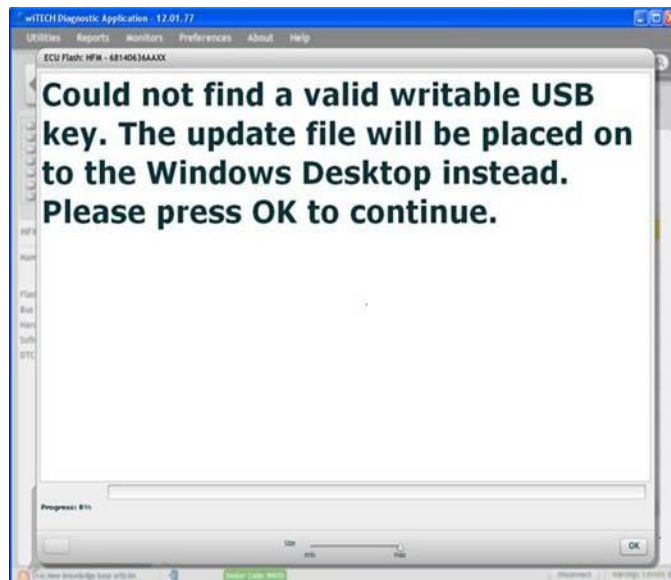

Fig. 8 USB Memory Stick Not Found
8. The USB Not Found dialog (Fig. 8) will appear. Click on OK to continue.